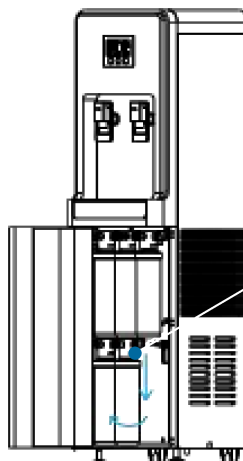

Figure 4 · Remove the filter by turning and sliding it, following the arrows on the filter
3. Remove the filter by turning it anticlockwise, following the arrows on the filter, and pulling it downwards (Figure 4).